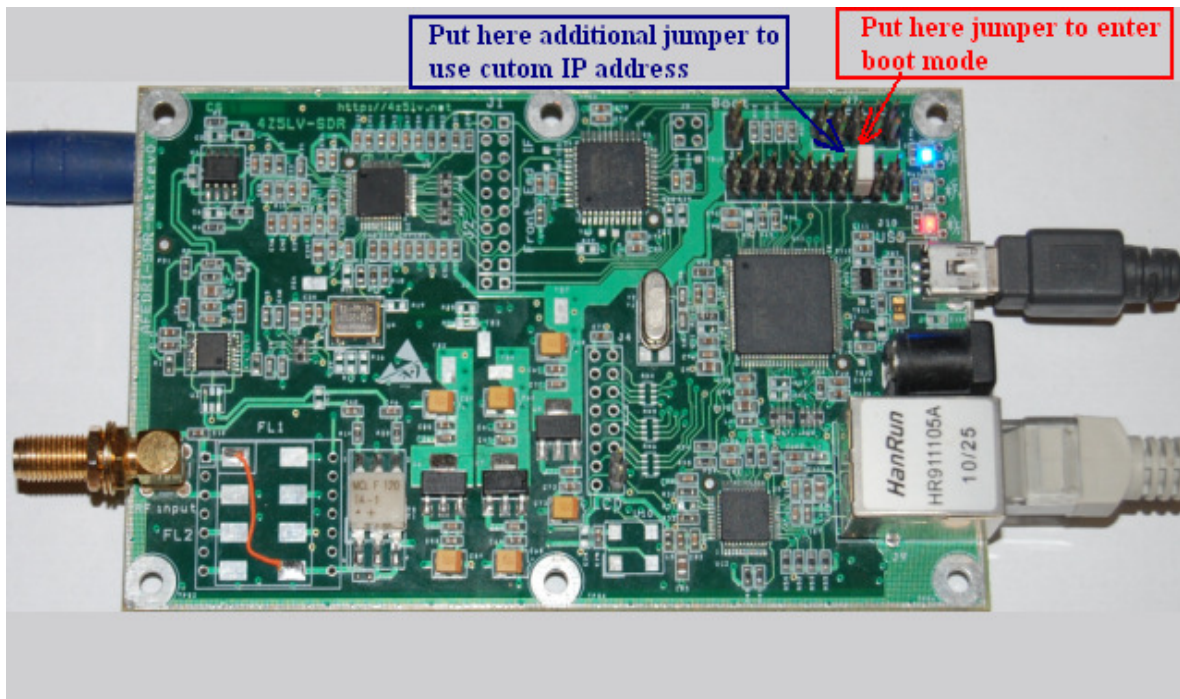

Figure 6 AFEDRI SDR-Net boot-mode jumper position on JTAG (P1) connector, for firmware upgrade mode
3.1.1. Set jumper between pins 5 and 6 of JTAG connector P1 (see Figure.6). If you put only this jumper, SDR will have default IP address - 192.168.0.8.